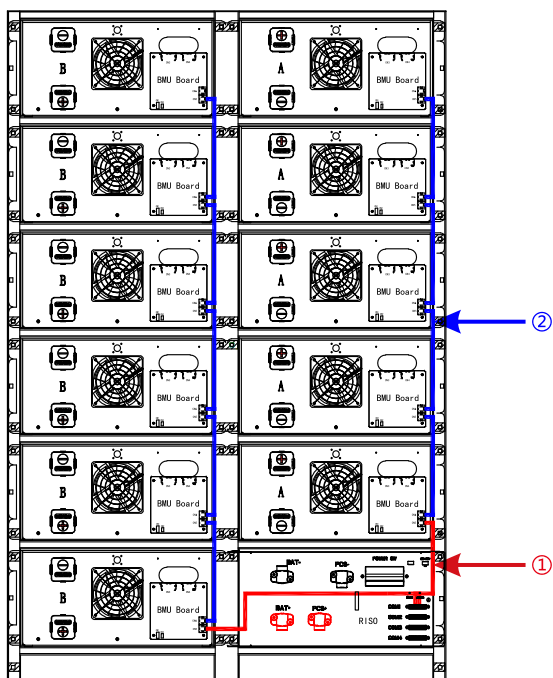

Figure-21 Battery cluster communication cable wiring diagram
2) .According to the wiring position shown in Figure-21, each cluster is connected to the battery module communication line in the S-shape from the lower right corner.